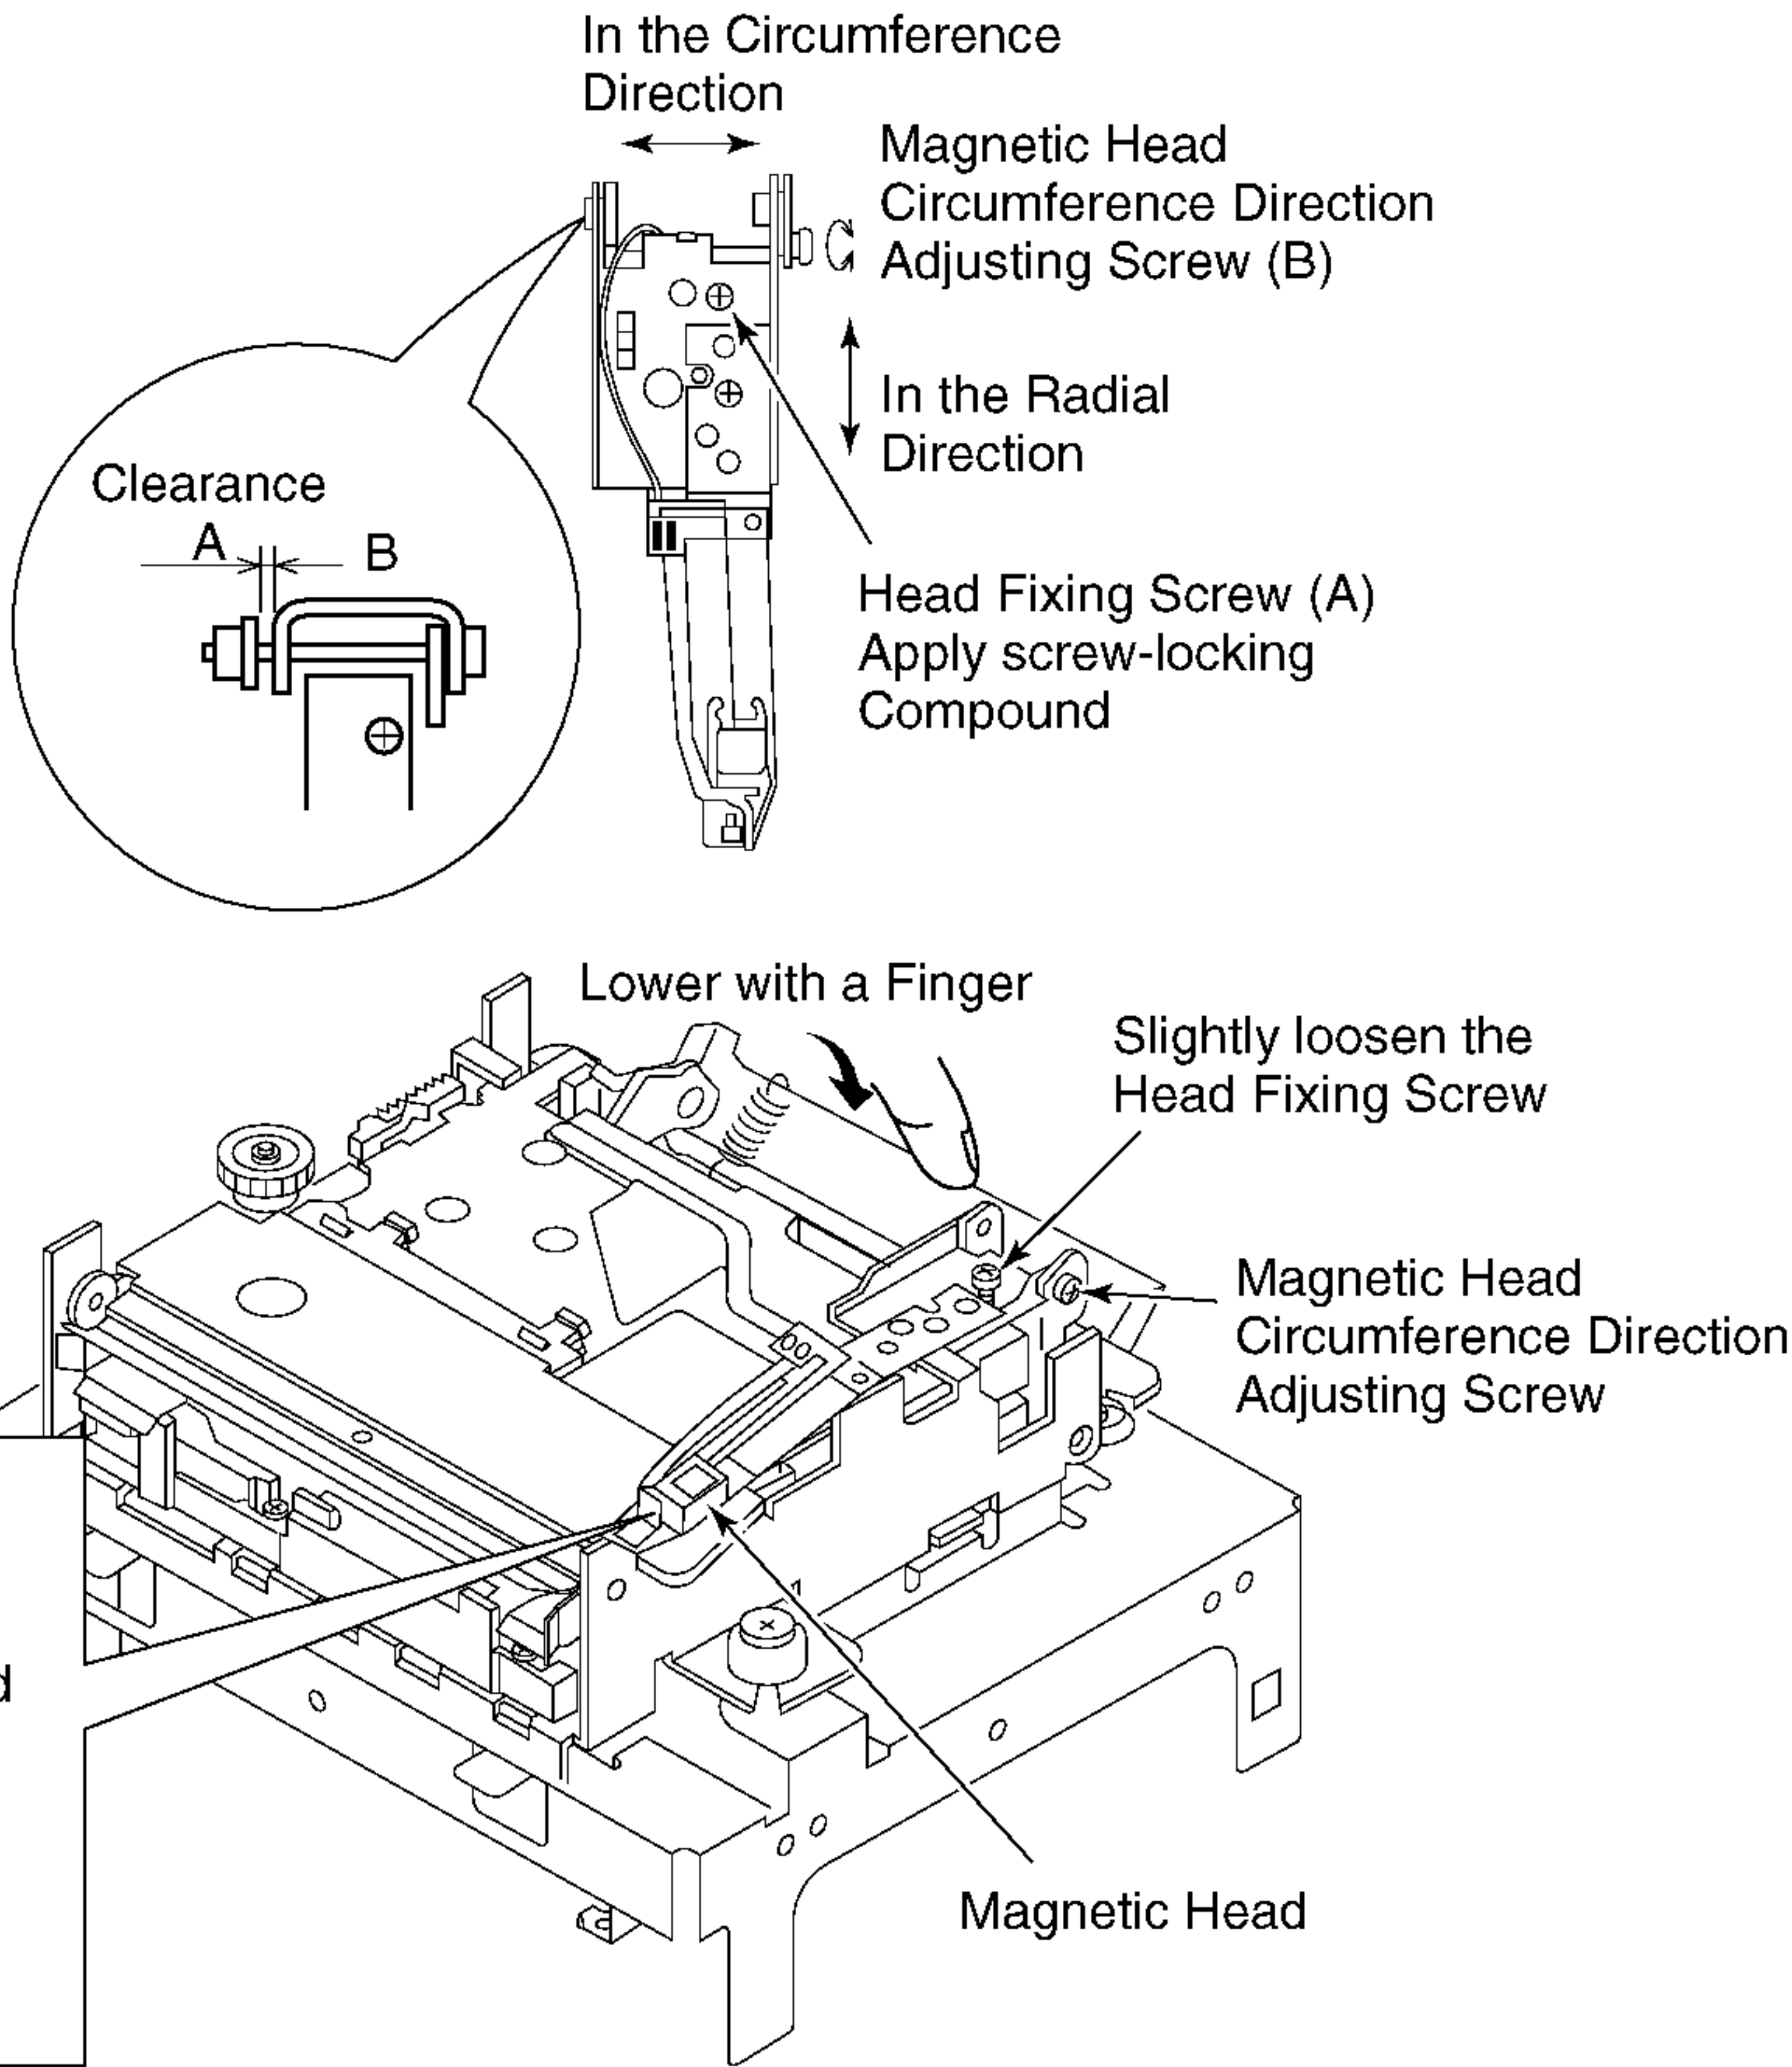

Fig. 6-4
- (1) Set transparent disc 3 for adjustment.
- (2) Lower the magnetic head up shift arm with your hand, and raise the magnetic head.
- (3) Looking at the unit from the top, adjust the magnetic head to the top of the optical pickup objective lens.
- In the radial direction: Slightly loosen the head fixing screw (A), and move the magnetic head fixture so that the head fits the top of the pickup objective lens.
- In the circumference direction: Rotate the magnetic head circumference direction adjusting screw (B), and adjust so that the head is at the top of the objective lens.
- (4) Check that there is space as shown in Fig. 6-4, and check that the magnetic head moves up and down smoothly.
- (5) After adjusting, apply screw-locking compound to the head fixing screw (A) and the adjusted screw (B).